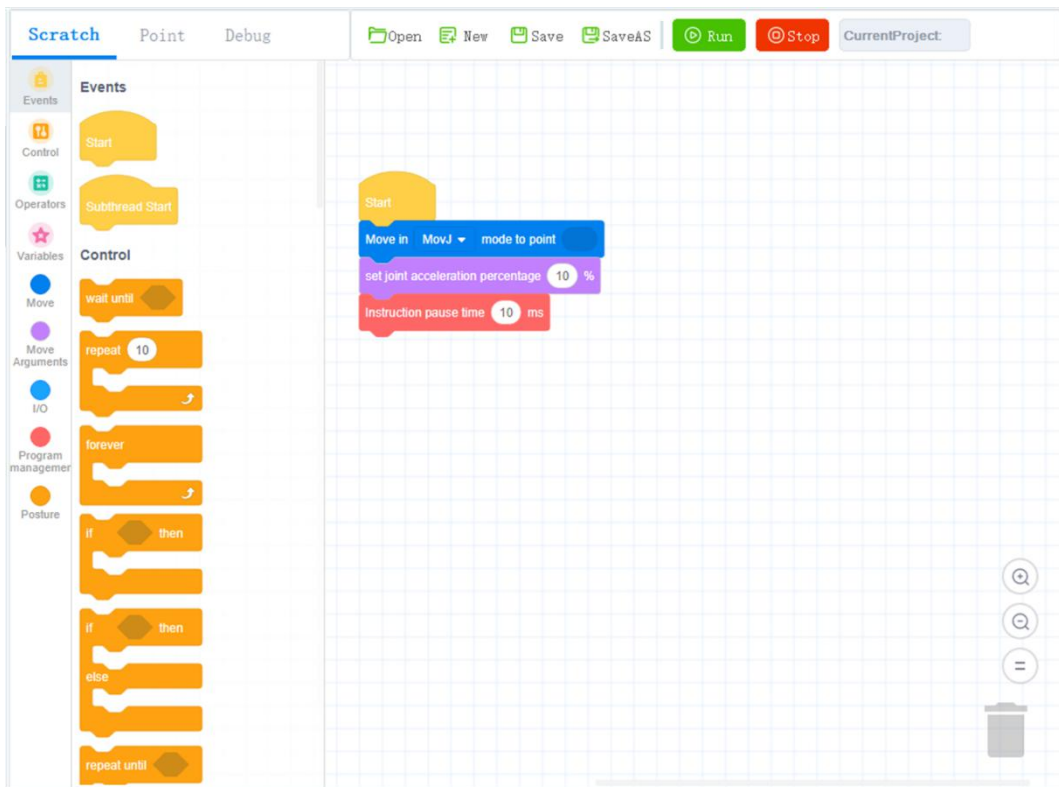

Figure 3.6 Writing a program
**Step 2** Drag the blocks to the code area to start programming, as shown in Figure 3.6.